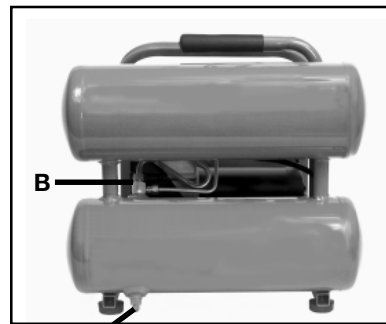

Figure 2
Check Valve (B) Fig. 2: When the air compressor is operating, the check valve is “open”, allowing compressed air to enter the air tank. When the air compressor reaches “cut-out” pressure, the check valve “closes”, allowing air pressure to remain inside the air tank.
Drain Valve (L) Fig. 2: The drain valve is located at the base of the lower air tank and is used to drain condensation at the end of each use.
11. Drain water from air tank. Turn drain valve (J) Fig. 2, counterclockwise, to open.